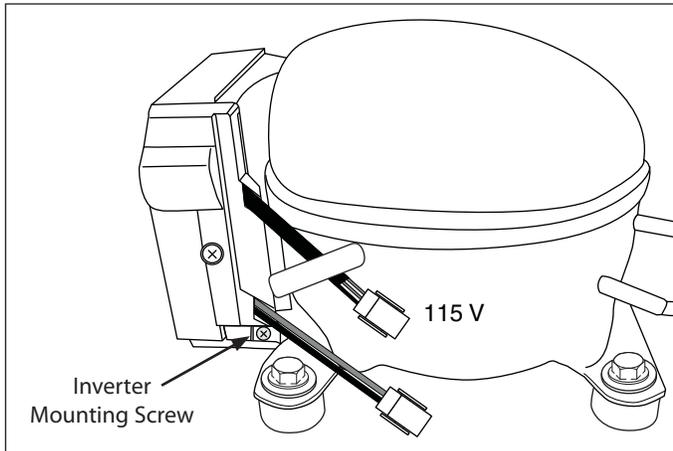

Figure 3-11
- If the voltage checks good, remove the inverter from the compressor by removing one screw at the bottom of the inverter that goes through the bracket welded to the compressor. (See Figure 3-11) Pull the inverter away from compressor. Use a small flat-bladed screwdriver to remove the plug from the compressor terminals. Using an ohmmeter, check the resistance between the compressor terminals (See testing the compressor). If the compressor checks good, replace the inverter.